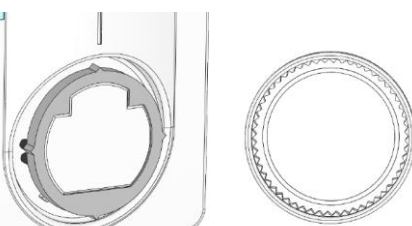

Fig. 2
- Put the internal wheel alone on the thermostat. (Figure 2)